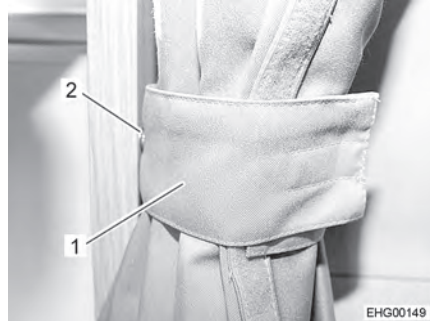

Fig. 4 Curtain shade, secured
- Secure both halves of the curtain shade with the loop (Fig. 4,1) and snap fastener (Fig. 4,2).